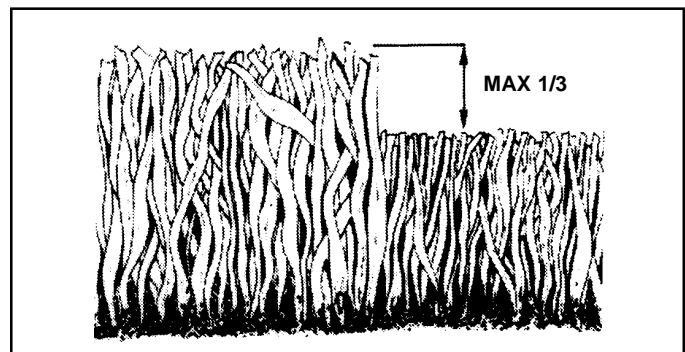

FIG. 11
- For best results, adjust the mower cutting height so that the mower cuts off only the top one-third of the grass blades (See Fig. 11). For extremely heavy mulching, reduce your width of cut on each pass and mow slowly.